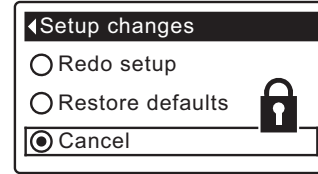

FIG. 28
8. Press the RIGHT (►) button. A flashing padlock icon will appear, as shown in Figure 28.
- 1-7. Go to the **Setup changes** screen (Figure 28) by following Steps 1-7 at left.